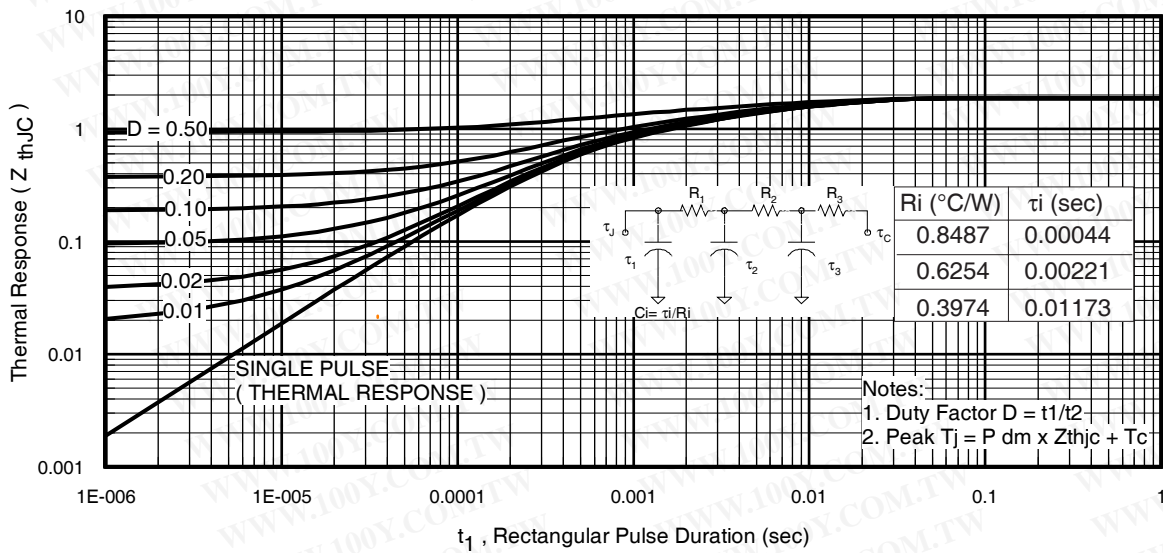
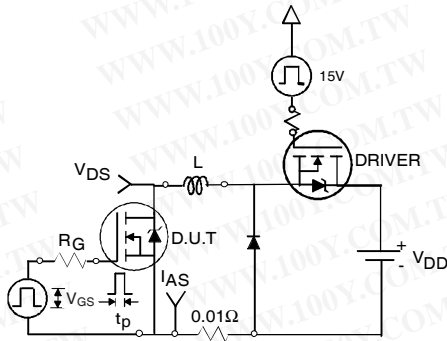

Fig 11. Maximum Effective Transient Thermal Impedance, Junction-to-Case
Fig 12a. Unclamped Inductive Test Circuit
- ① Repetitive rating; pulse width limited by max. junction temperature. (See fig. 11).
- ② Limited by T_{Jmax} , starting $T_J = 25^\circ\text{C}$, $L = 0.18mH$, $R_G = 25\Omega$, $I_{AS} = 31A$, $V_{GS} = 10V$. Part not recommended for use above this value.
- ③ $I_{SD} \leq 31A$, $di/dt \leq 840A/\mu s$, $V_{DD} \leq V_{(BR)DSS}$, $T_J \leq 175^\circ\text{C}$.
- ④ Pulse width $\leq 1.0ms$; duty cycle $\leq 2\%$.
- ⑤ $C_{oss\ eff.}$ is a fixed capacitance that gives the same charging time as C_{oss} while V_{DS} is rising from 0 to 80% V_{DSS} .
- ⑥ Limited by T_{Jmax} , see Fig.12a, 12b, 15, 16 for typical repetitive avalanche performance.
- ⑦ This value determined from sample failure population. 100% tested to this value in production.
- ⑧ This is applied to D²Pak, when mounted on 1" square PCB (FR-4 or G-10 Material). For recommended footprint and soldering techniques refer to application note #AN-994.
- ⑨ R_θ is rated at T_J of approximately 90°C .
3. Equation below based on circuit and waveforms shown in Figures 12a, 12b.
$Z_{thJC}(D, t_{av})$ = Transient thermal resistance, see figure 11)